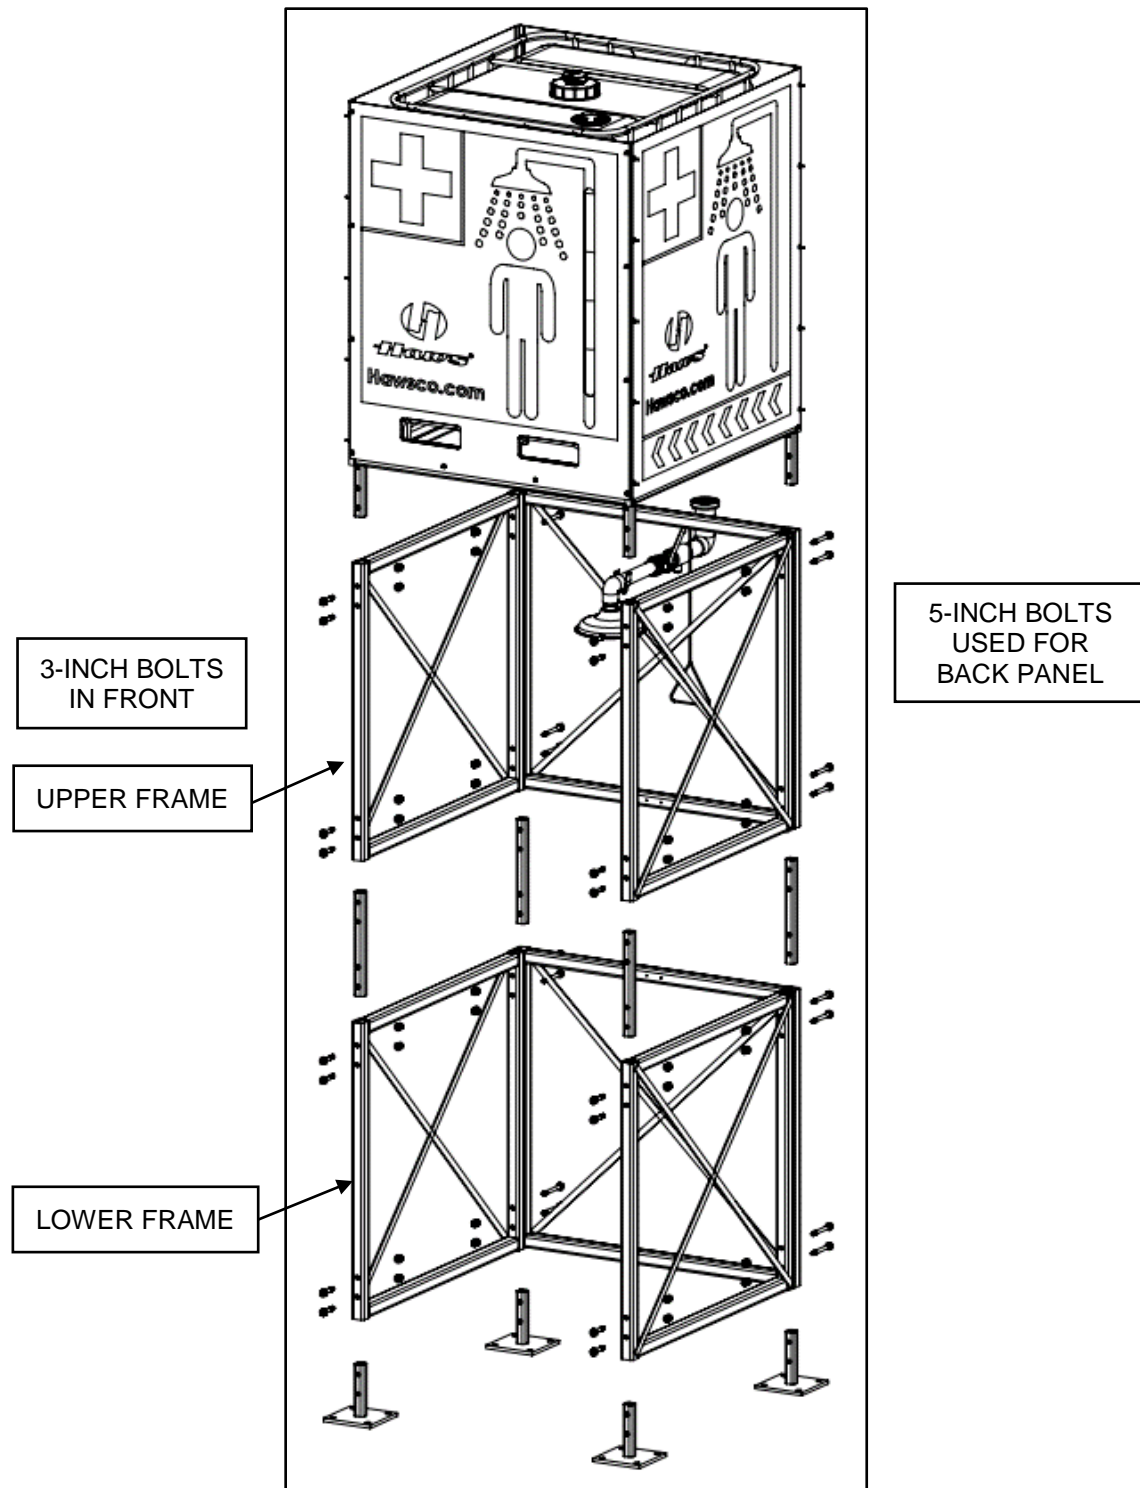

Figure 4. Exploded View of Model 8740
9. Figure 4 shows an exploded view of the assembly.